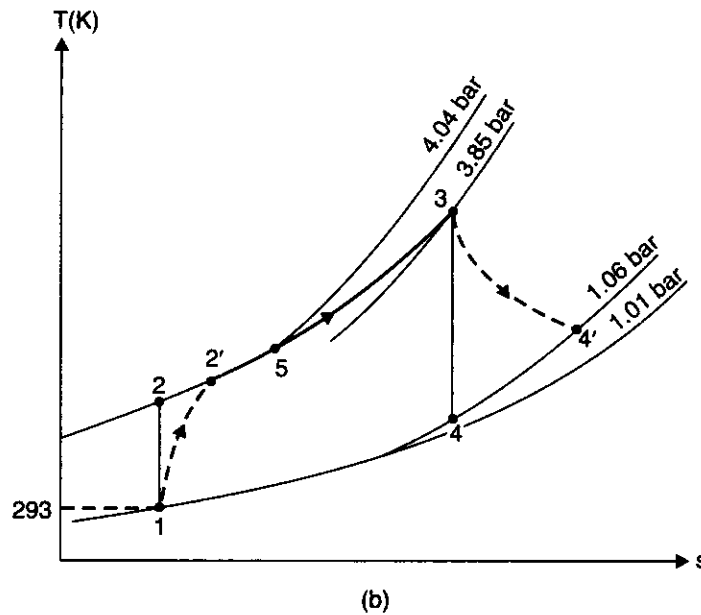

Fig. 13.66
**Heat Exchanger Cycle.** Refer Figs. 13.66 (a) and (b)